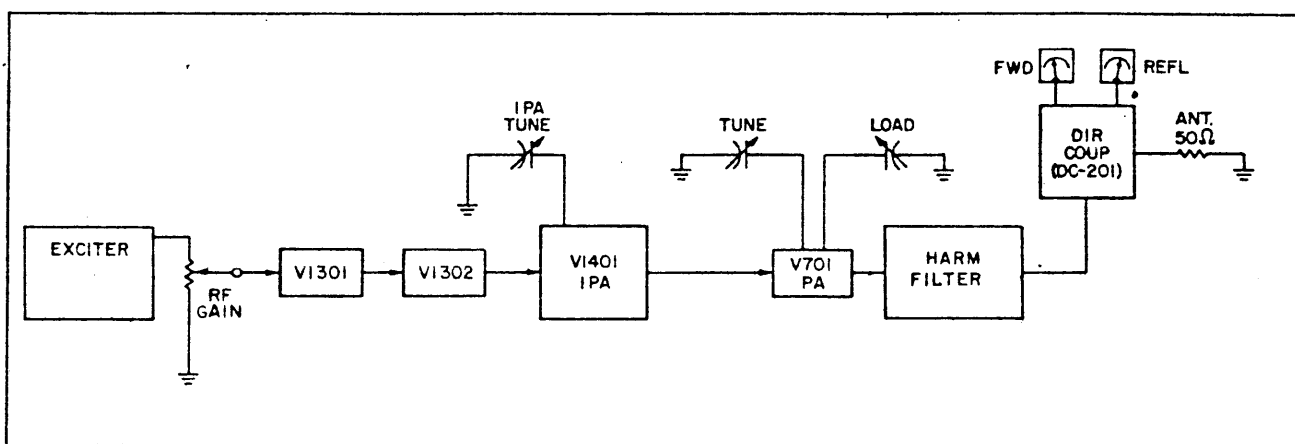

Figure 4-1. Block Diagram
a. Block Diagram Description. (Refer to figure 4-1) Figure 4-1 shows the path of the rf signal from an exciter routed through the amplifier stages, the harmonic filter, output metering circuits and finally to the 50 ohm transmitting antenna or dummy load. Tuning capacitors are used to resonate the intermediate power amplifier and power amplifier stages.